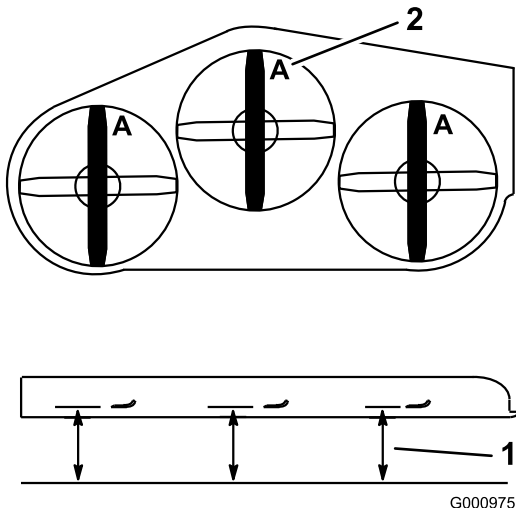

**Figure 93**
1. Inspect the cutting edges (Figure 93).
4. If you notice any cracks, wear, or a slot forming in this area, immediately install a new blade (Figure 93).